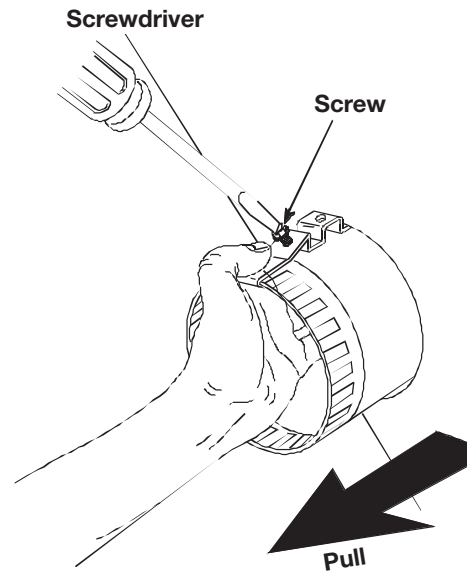

Figure 6
7. Pull flex pipe through hole until clip "snaps" into place. Maintain position with one hand while securing screw with the other hand. See Figure 6.